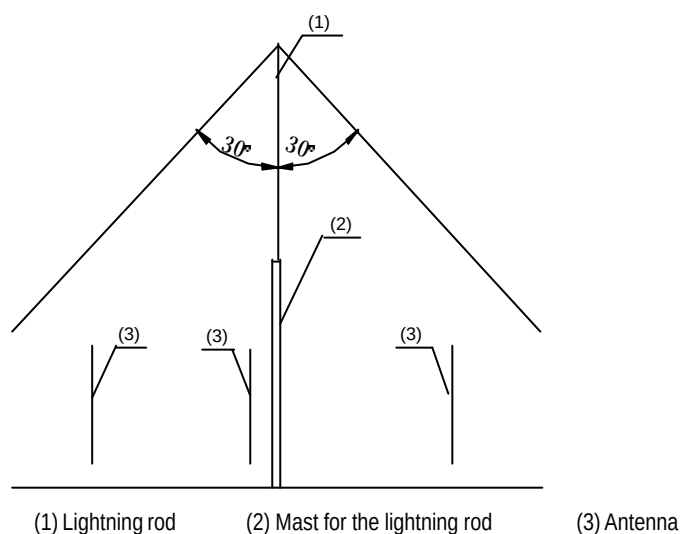

Figure 6-16 Installation of the lightning rod
- The mast for the tower lightning rod should be installed separately, satisfying the requirements for the lightning protection of all antennas. When the antenna stand is hanged over the tower platform, make sure that the antenna on the stand is in the lightning protection coverage 30° downward from the top of the lightning rod, as shown in Figure 6-16. As for the place where the thunderstorm days are more than 20 days, the lightning protection coverage should be the area 30° downward from the top of the lightning rod;